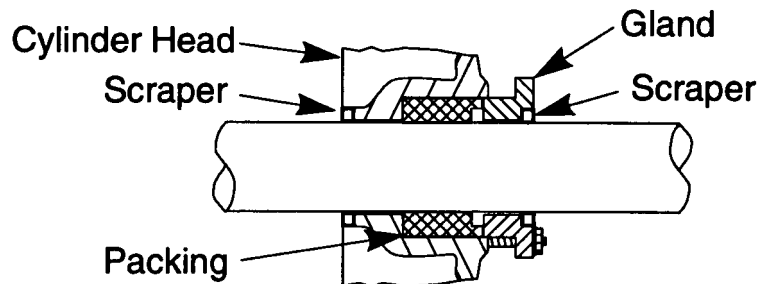

Figure 2—Cylinder Repair Component Locations
13. Remove the scrapers from the cylinder head and gland. Figure 2 shows the locations of the scrapers.
15. Push new scrapers into the head and gland until they bottom out in the counterbores. The open side of the scraper should face away from the counterbore (see Figure 2).